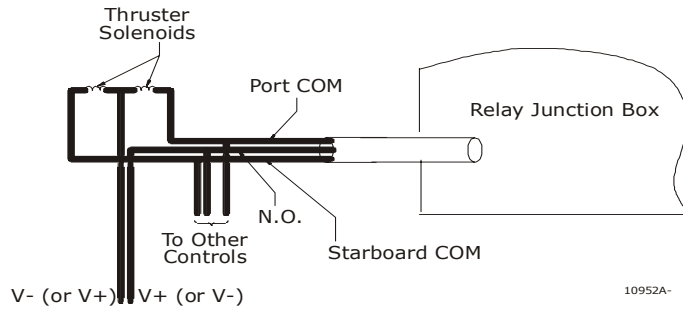

Figure 26: Typical Connections at Thruster
- A) Make connections at the Thruster. Refer to the information supplied with the Thruster and Figure 26:, page 24.